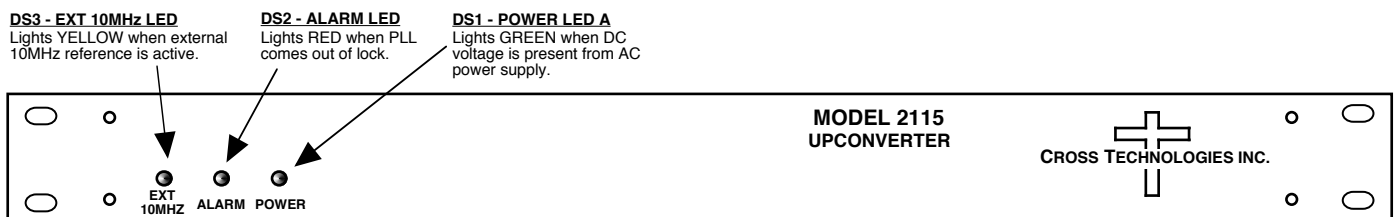

FIGURE 2.2 2115-310-1600 Front Panel Controls and Indicators
4. Be sure DS1 (green, DC Power) is on and DS2 (red, Alarm) is off (Figure 2.2).
6. If EXT is selected or AUTO is selected and there is a 10MHz, 3 dBm signal at J2, check that DS3 (yellow, Ext 10MHz) is on (Figure 2.2).